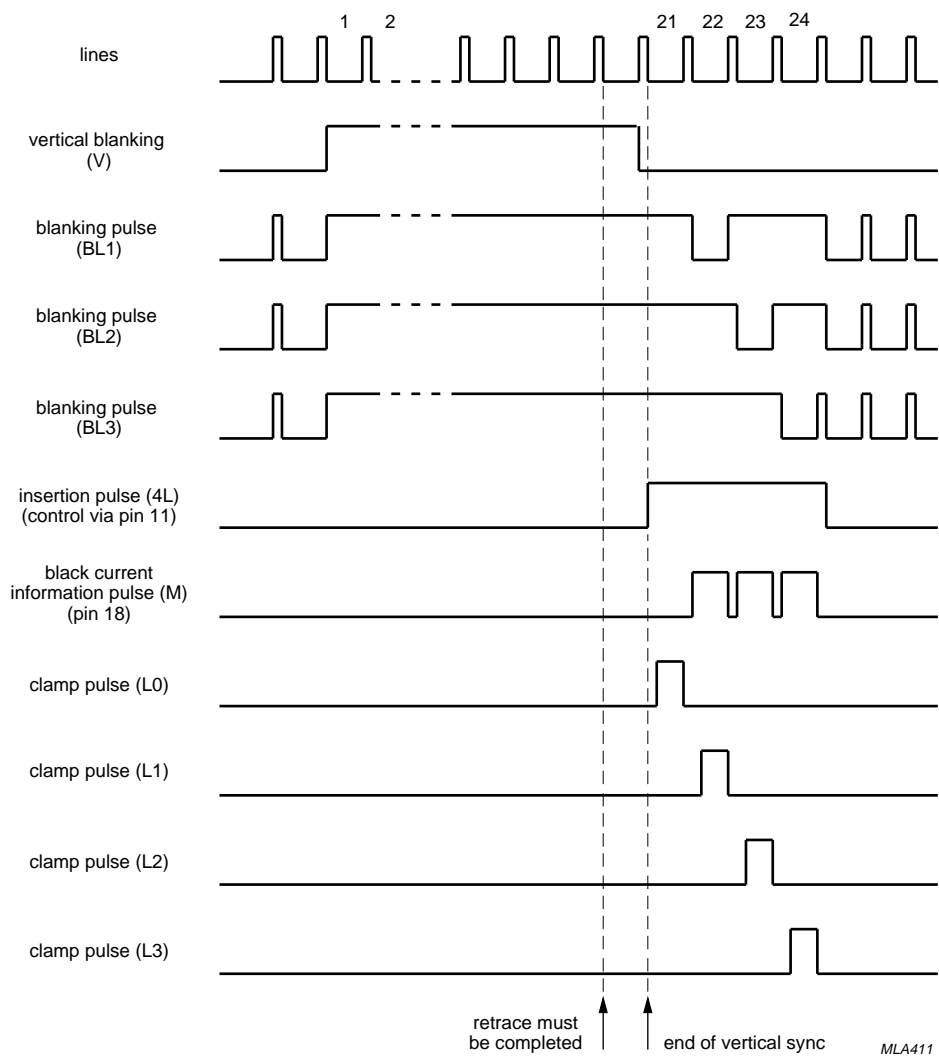

Fig.7 Timing diagram for black-current stabilization.
14. The voltage at pins 24 and 25 can be changed by connecting the load resistors (20 k Ω , 1%, in this condition) to the slider bar of the hue control potentiometer (see Fig.7). When the transistor is switched on, the voltage at pins 24 and 25 is reduced below 9 V, and the circuit is switched to NTSC mode. The width of the burst gate is assumed to be 4 μ s typical.